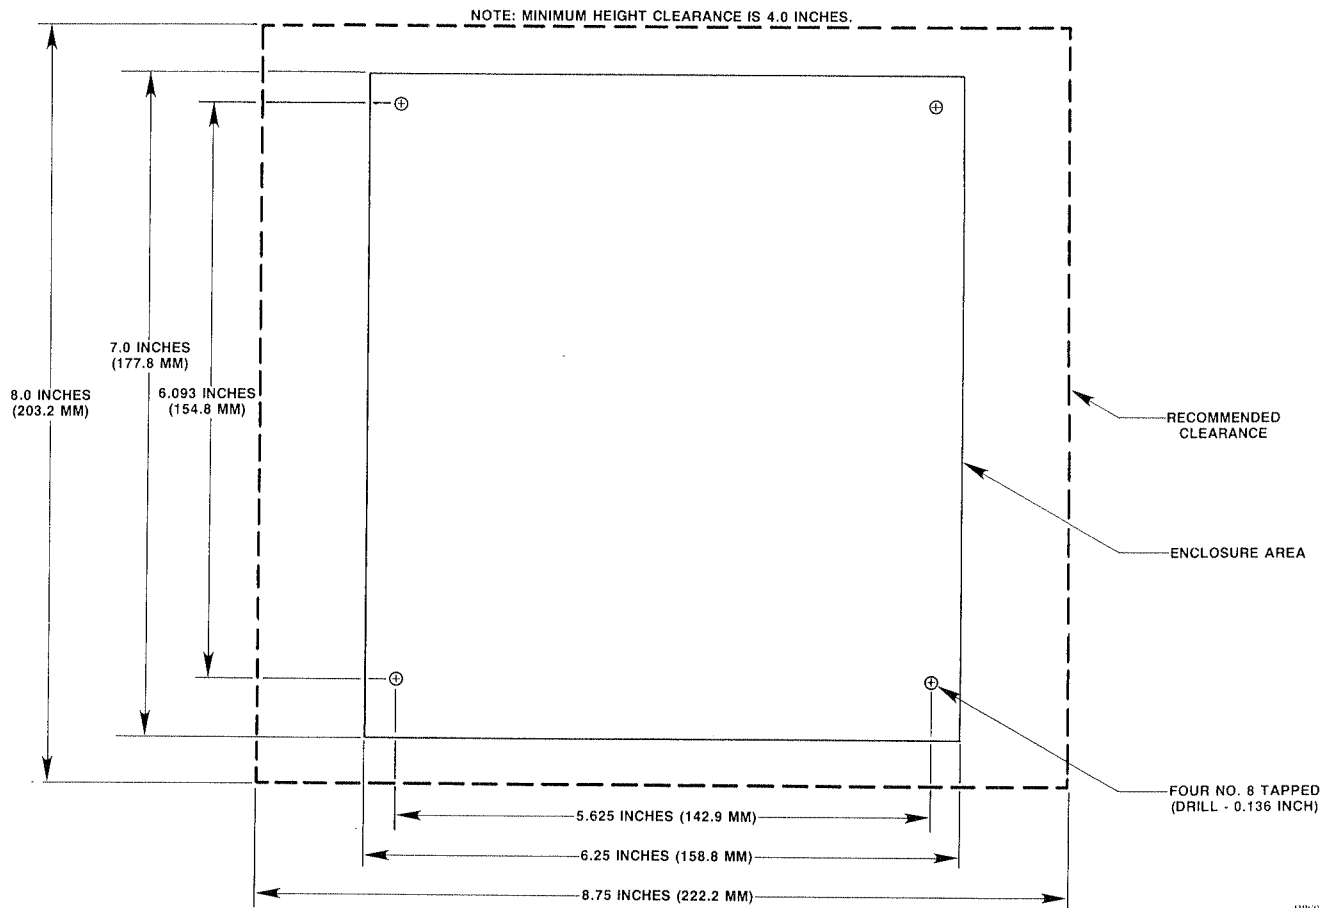

Figure 3—R9005 Controller Mounting Dimensions
See Figure 3 for the R9005P dimensions.
The R9005P is surface mounted, see Figure 3.
4. Refer to Figure 3 for the mounting dimensions of the base. Use a No.8 screw with a lockwasher in each of the four holes to mount the base.